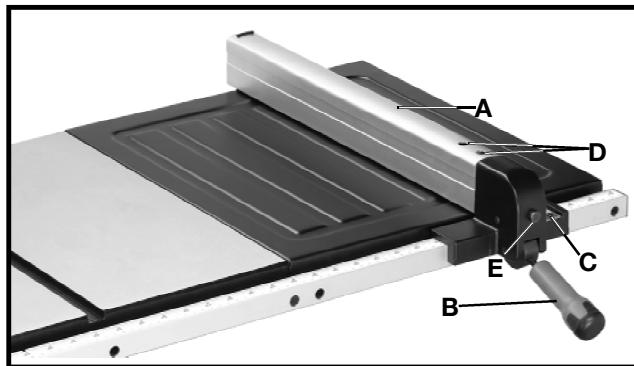

Fig. 40
1. To move the rip fence (A) Fig. 40, along the table, lift up fence locking lever (B), slide the fence to the desired location on the table and push down fence locking lever (B) to lock the fence in position.
2. A pointer is supplied to indicate the distance the fence is positioned away from the saw blade. If an adjustment to the pointer is required, loosen the screw (C) Fig. 40, that fastens the pointer to the fence bracket and adjust the pointer accordingly. Then, tighten screw (C).
7. Loosen the two screws (D) Fig. 40, and lift up locking lever (B). Then while holding the fence bracket firmly toward the front of the saw, move the rear end of the fence (A) until it is parallel with the miter gage slot. Then tighten two screws (D) and push down locking lever (B). 8. The clamping action of the fence (A) Fig. 40, can be adjusted by lifting up locking lever (B) and turning screw (E) clockwise to increase or counterclockwise to decrease the clamping action of the fence.